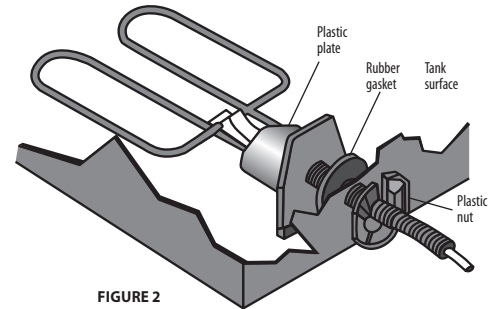

FIGURE 2
5. Set the de-icer on the inside of the tank. Let it rest on the bottom of the tank. The rubber gasket should be between the inside of the tank surface and the plastic plate of the heater housing (see figure 2).
9. Tighten the nut onto the threaded stem of the heater housing and up against the outside tank surface. Position the nut so that the raised ring fully inserts into the drain hole of the tank (see figure 2). This is only necessary if you have determined that this ring is of smaller diameter than the drain opening in your tank as tested by completing step #2. This will stabilize the de-icer.